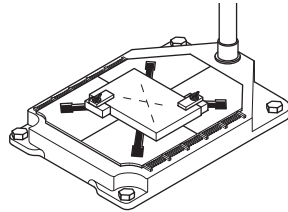

Figure 6. Workpiece Hold Downs Clamps (not supplied)
13. Secure the workpiece to the base before drilling. This will keep the workpiece from climbing the drill bit or spinning. The benefit is safety and better quality work. Hold down clamps (not included) are very good for holding workpieces, or use a small utility vise for holding the workpiece when drilling (Figure 6).